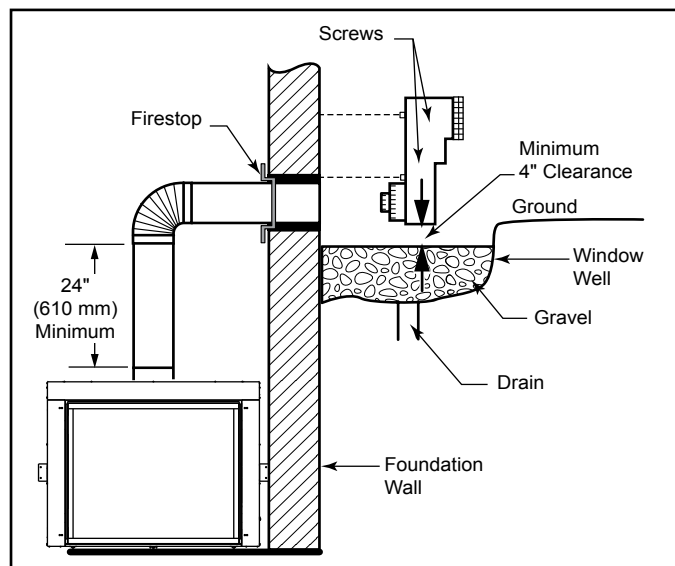

Figure 5.9 Below Grade Installation
supplied). Refill hole with 12" of coarse gravel leaving a clearance of approximately 4" below snorkel. See Figure 5.9.
7. Level the soil so as to maintain a 4" clearance below snorkel. See Figure 5.9.